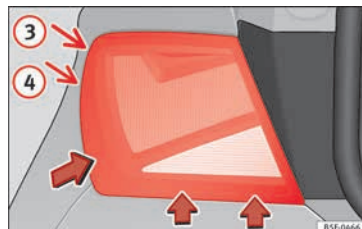

Fig. 116 Remove the rear light unit from side panel.
- Tilt the light in the direction of the arrows until it comes out (positions **③** and **④**) » **Fig. 116**.